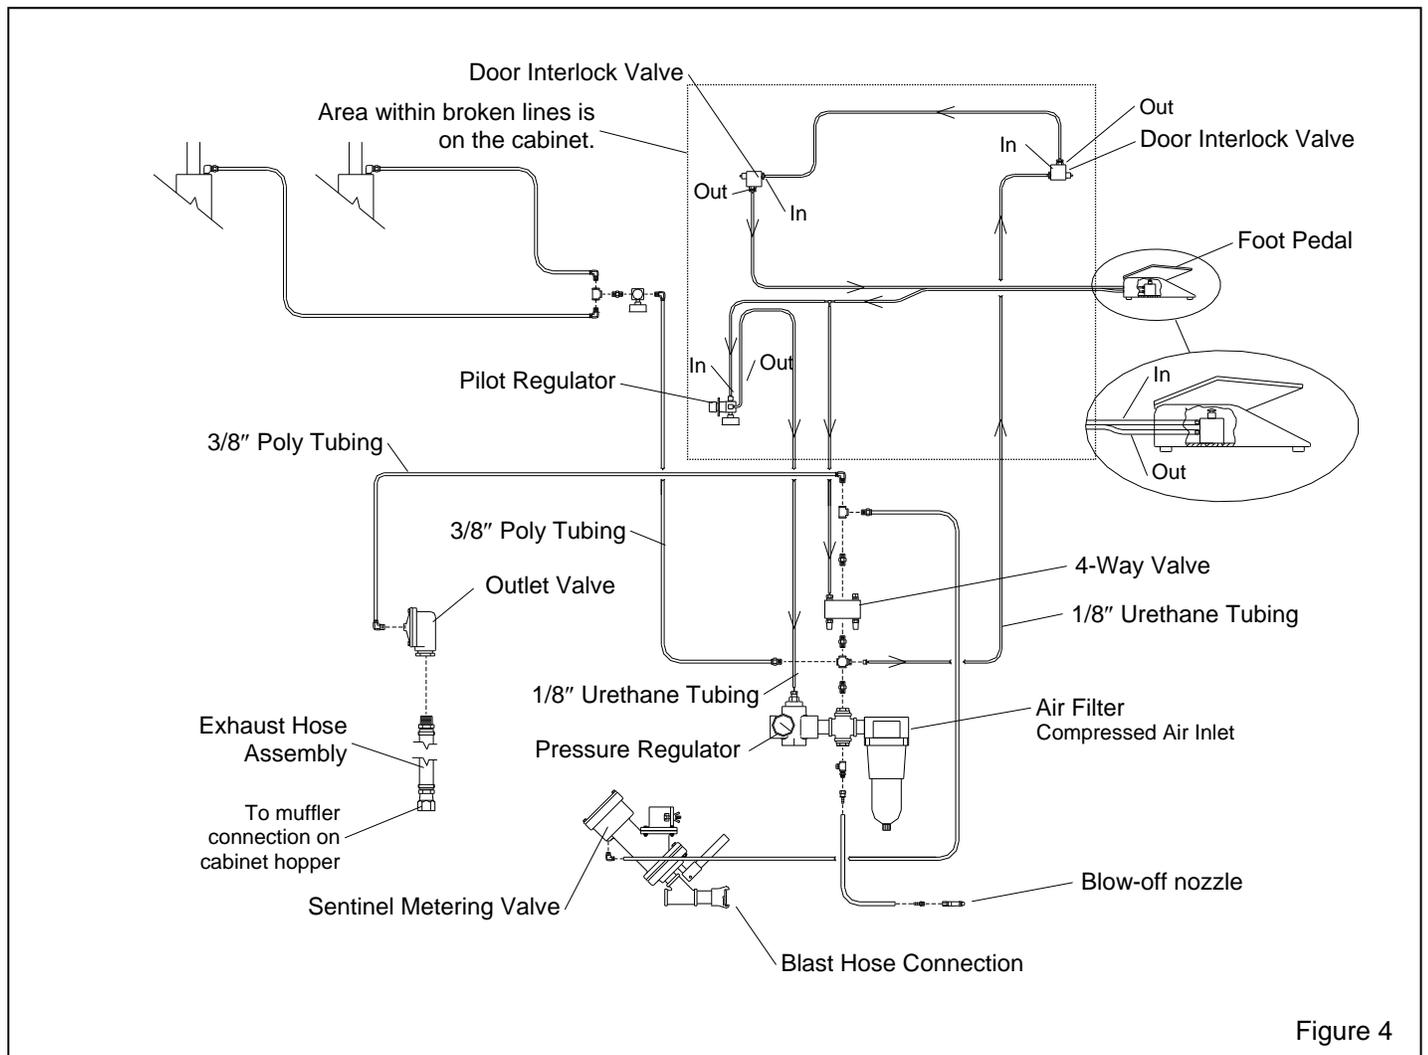

Figure 4
2.6.1 Attach the 1/2" blow-off hose coming from the cabinet hopper, to the compatible fitting on the blast machine piping, between the air filter and regulator. See the schematic in Figure 4.
2.9.1 Uncoil the 1/8" urethane control tubing, from under the cabinet. The end of each tubing is numbered. Connect the tubing to the adaptor with the corresponding number on the pressure regulator and 4-way air valve. Check the schematic in Figure 4 to confirm the connections.